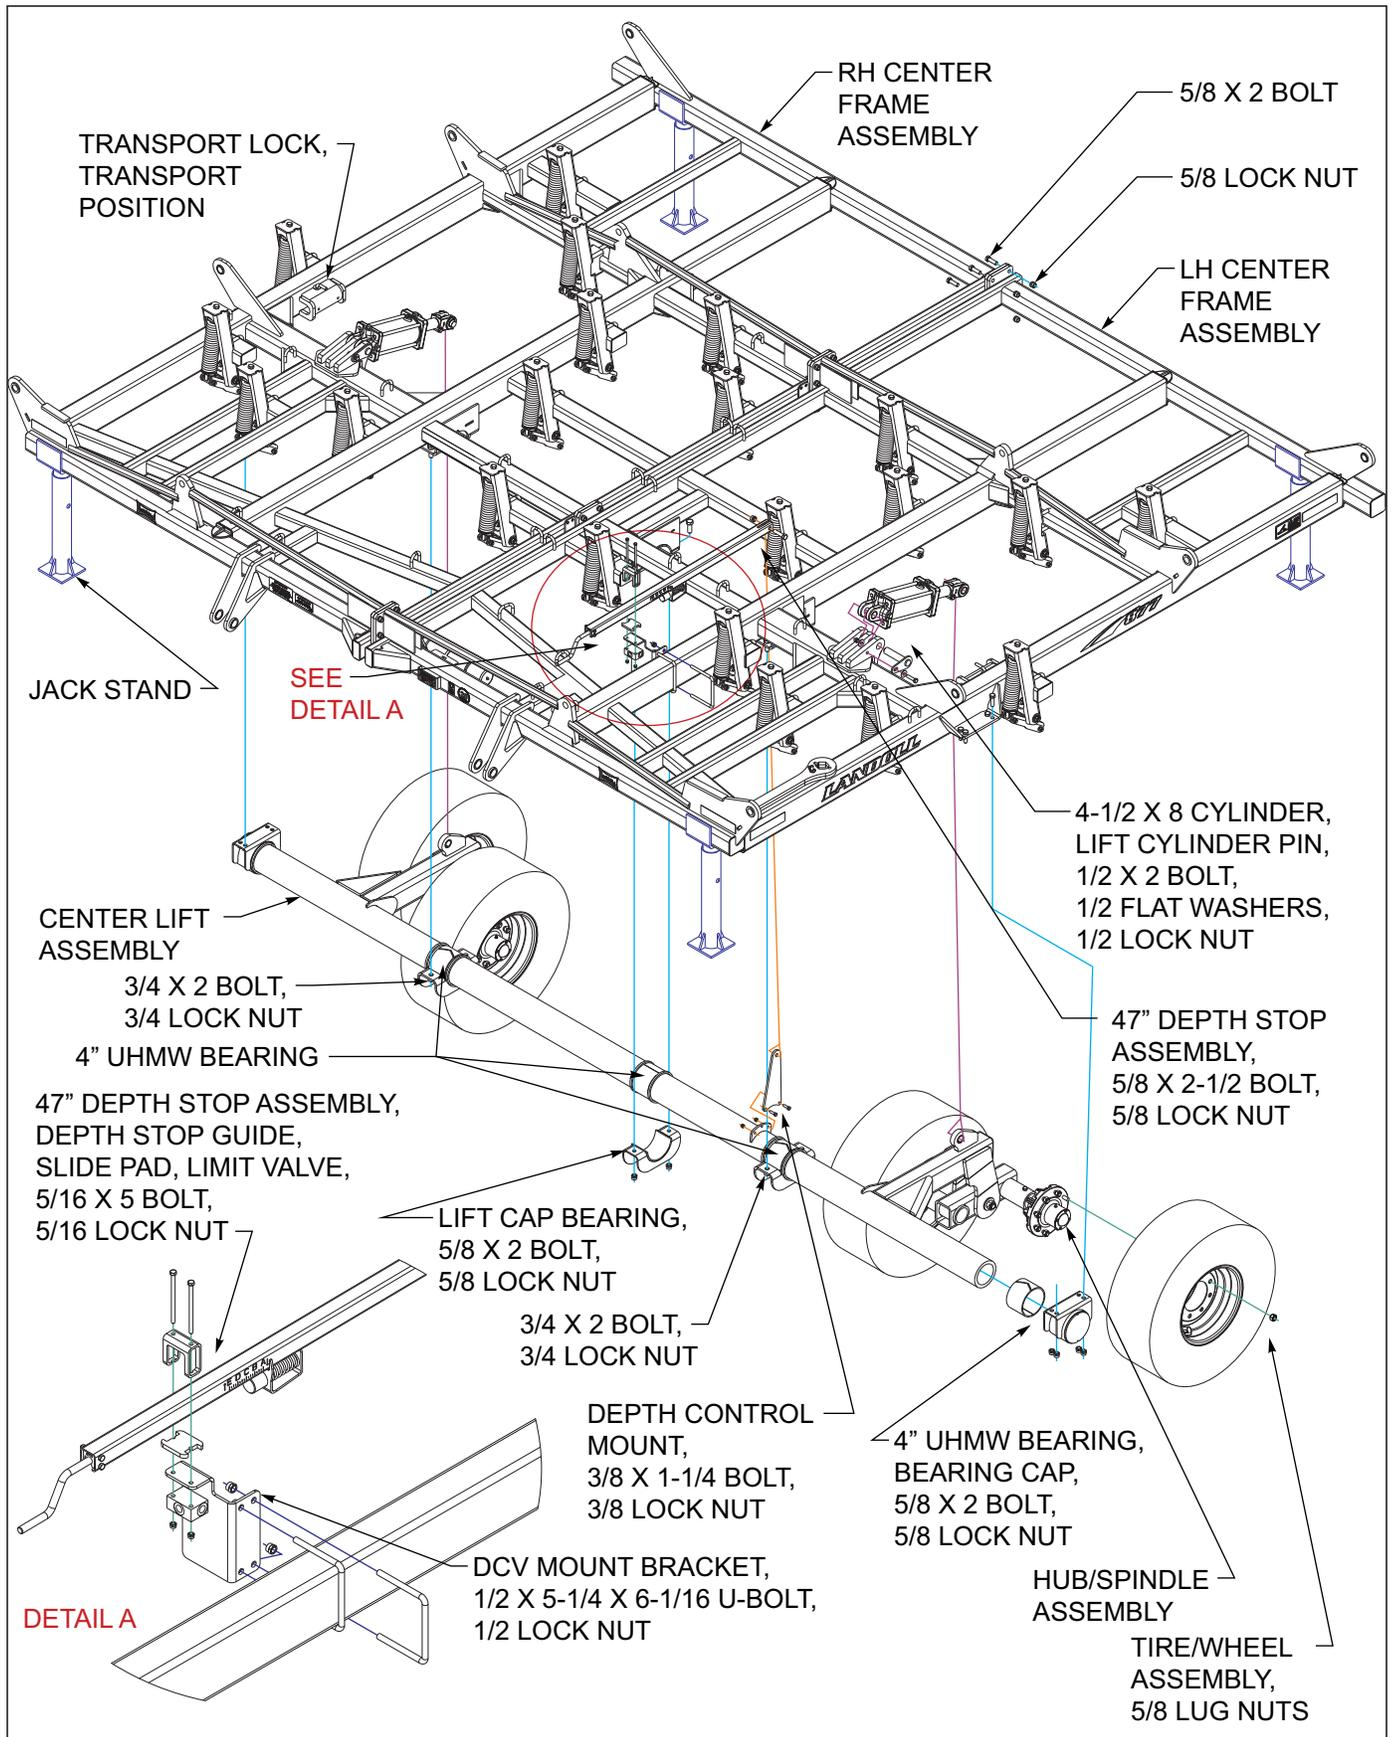

Figure 3-2: Center Frame Assembly
1. Place the LH and RH center frame assemblies on stands approximately 36" off the ground See Figures 3-2. Bolt the two halves together using 5/8 x 2 bolts and lock nuts.
9. Fasten the limit valve on bottom of DCV mount bracket, secure with 5/16 x 5 bolt and lock nut See Figures 3-2
11. Align the holes in the base end of 4-1/2 x 8 master cylinders with holes in welded lugs on center frame. Ensure ports are facing upwards. Secure with lift cylinder pin, 1/2 x 2 bolt, 1/2 flat washers and 1/2 lock nut. Attach rod end of cylinders to lug on center lift assembly with cylinder pins and roll pins provided with cylinders See Figures 3-2.
1. Install the base end of master cylinders on the main frame with ports up, using lift cylinder pin, secure with 1/2 x 2 bolt, 1/2 flat washer and 1/2 lock nut. Connect rod end to the center lift weldment with pin and roll pins provided See Figures 3-2.